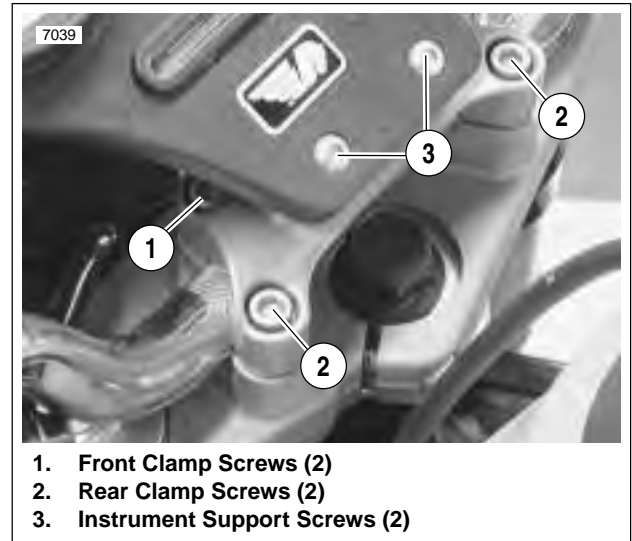

Figure 1-50. Adjusting Handlebars
2. See Figure 1-50. Detach instrument support by removing both instrument support screws (3).